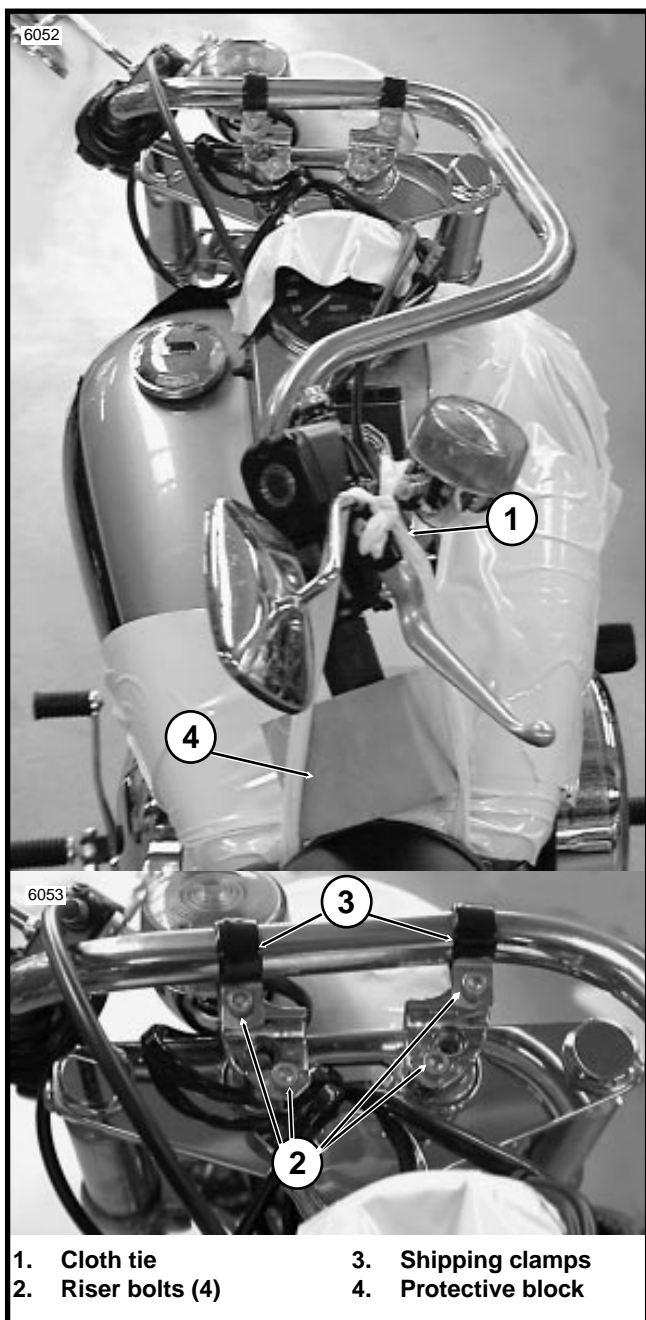

Figure 3
1. See Figure 3. Remove the cloth tie (1) securing handlebar.
2. Remove the four bolts (2) from the riser. Retain the four bolts.
8. See Figure 3. Remove shipping clamps (3) from the handlebar.
9. See Figure 3. Remove block (4) on throttle.